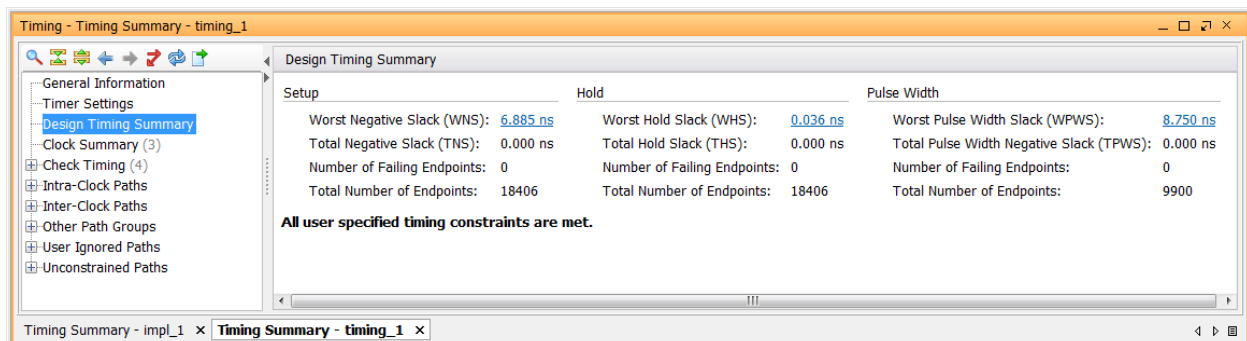

Figure 71: Timing Summary
7. Ensure that all timing constraints are met by looking at the Timing Summary tab, as shown in Figure 71. Note that timing could be slightly different in your case.